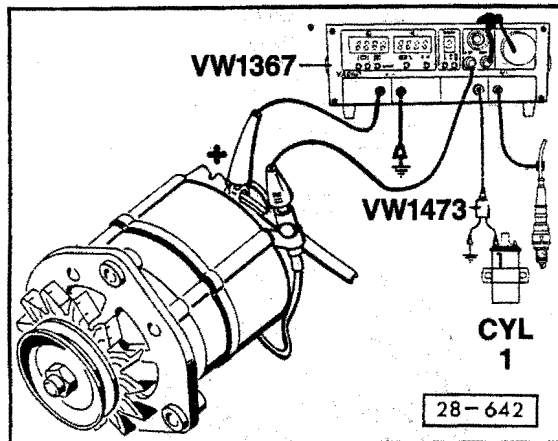

Fig. 1 Connecting test equipment
- connect test equipment for ignition timing and rpm (see Fig. 1)